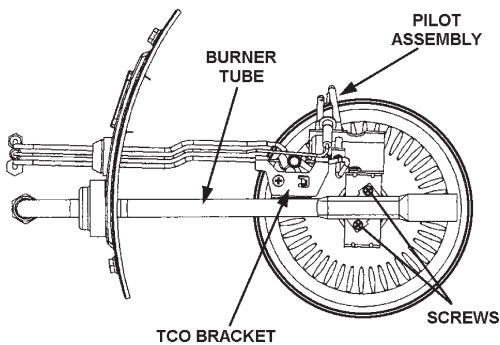

FIGURE 15.
- To remove the natural gas pilot assembly, remove the Phillips-head screw holding the TCO bracket to the burner tube bracket, see Figure 15.